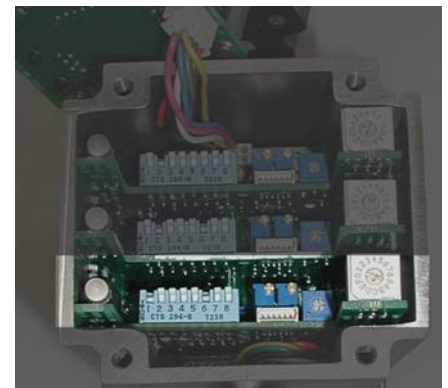

Figure 8: Pressure electronics.
6. Identify the Pressure Control Electronics board from Figure 8.